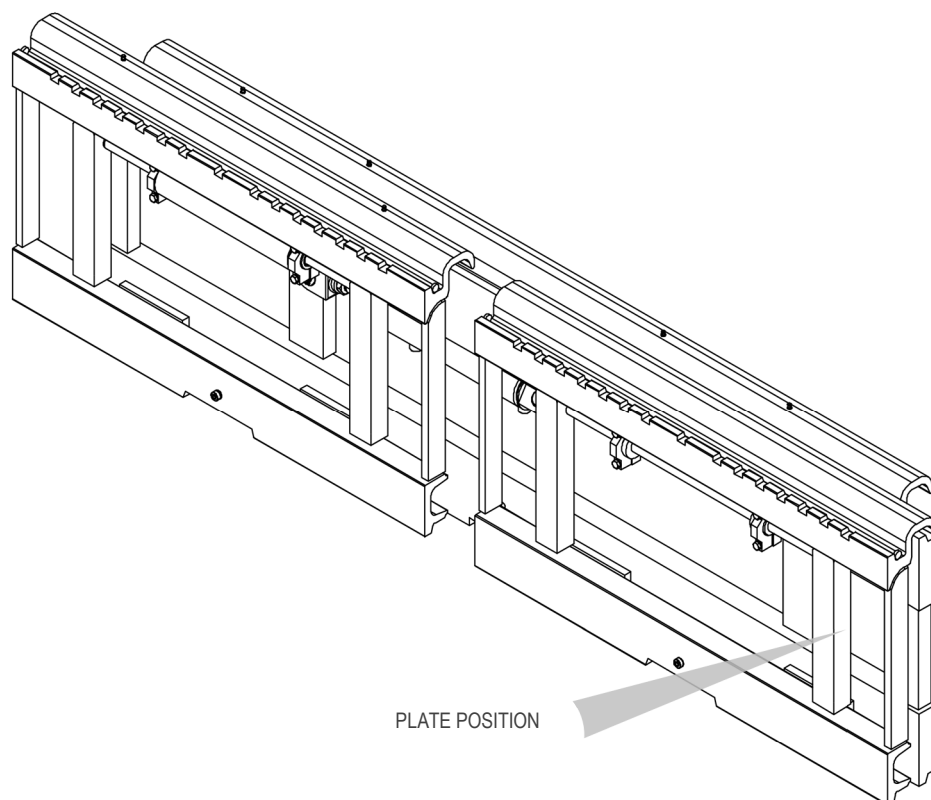

Figure 1
All the A.T.I.B. equipment - "DOUBLE SIDESHIFT TYPE 107.2 | TRIPLE SIDESHIFT TYPE 107.3" is identified by means of an adhesive plate (see *Table 1*) positioned on the equipment (the position of the identification plate may vary depending on the equipment, see *Figure 1*). Always refer to the serial number.
7. For handling, use belts or chains appropriately sized with regard to the weight of the equipment indicated on the plate (see Figure 1 and Table 1 on page 6).
12. Connect the hydraulic circuit, making sure that the operating pressure of the lines is greater than or equal to that indicated on the identification plate (see *Figure 1* and *Table 1* on page 6).
4. For handling, use belts or chains appropriately sized with regard to the weight of the equipment indicated on the plate (see *Figure 1* and *Table 1* on page 6).
9. Connect the hydraulic circuit, making sure that the operating pressure of the lines is greater than or equal to that indicated on the identification plate (see *Figure 1* and *Table 1* on page 6).